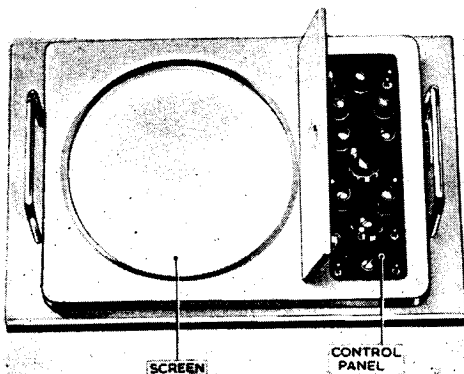

Fig. 1. Position of control panel
1. The *panel (control) Type 859* (Stores Ref. 10D/18643) is part of the indicating unit (CRT) Type 35 in the fixed-coil display console Type 64. Fig. 1 shows the location of the control panel just to the right of the tube face, and fig. 2 shows a close-up view of the front of the panel, with the cover pulled open.